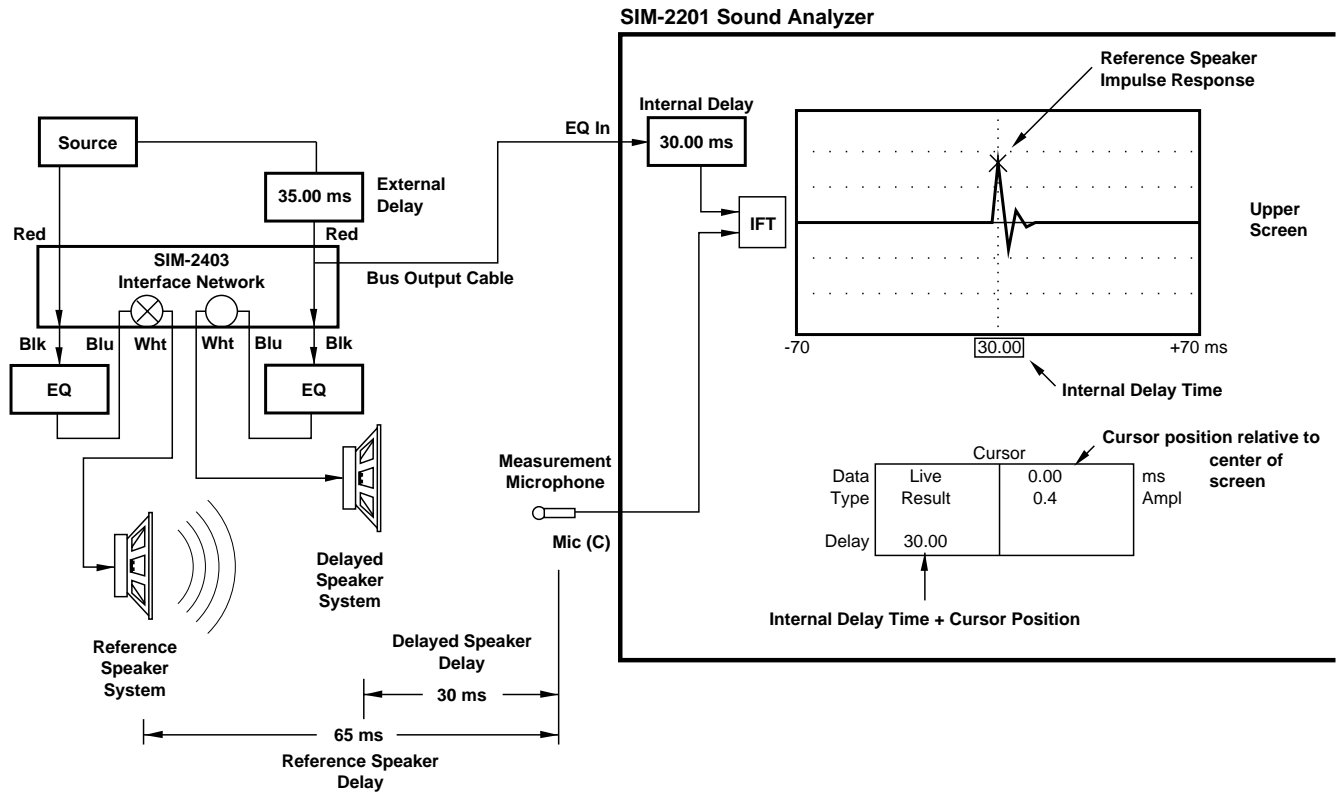

Figure 47d — Setting the External Delay. Adjust External Delay Until Cursor Peak is Centered.
- 6) While observing the Delay finder trace, adjust the external delay time until the peak is at center. The display should appear as shown in Figure 47d. The external delay line has now been adjusted so that its speaker's sound will arrive coincident with the sound from the Reference speaker, at the measurement microphone position.